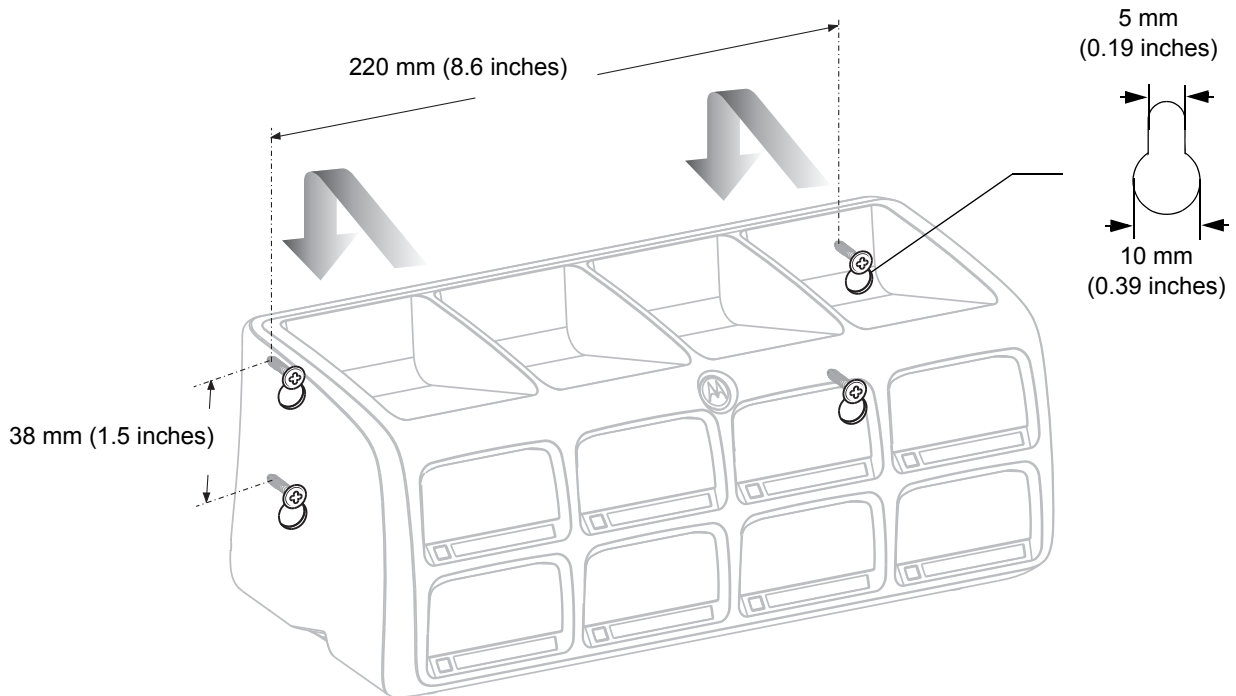

Figure 2-3 Wall Mounting of Charger
3. Connect the power supply cable to the power connector on the back of the Charger (see Figure 2-3).